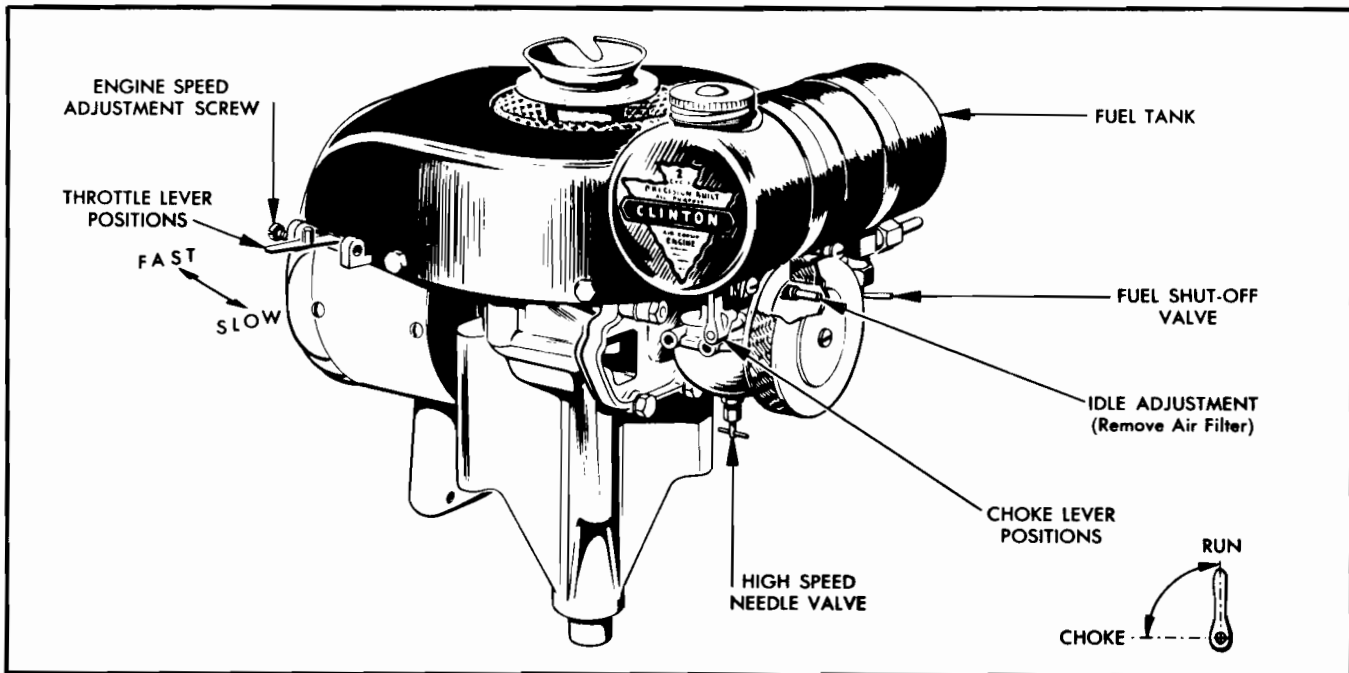

Figure No. 10—General View of Clinton Two Cycle Engine
4. Push choke lever into "choke" position. (See Figure No. 10.)